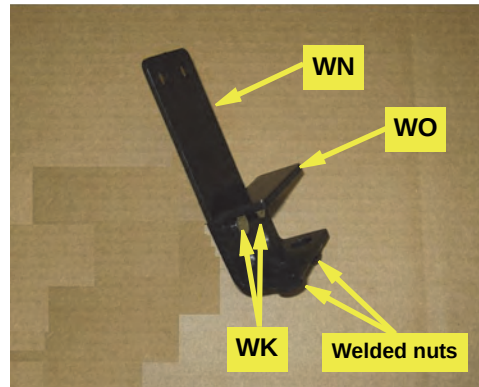

Figure 2a: Bracket assembly (WP and WN)
- a. Using hardware **WK**, fasten clamp bracket **WO** to extension bracket **WN** with the welded nuts on **WO** at the bottom. Use the top holes in bracket **WO** (Figure 2a).